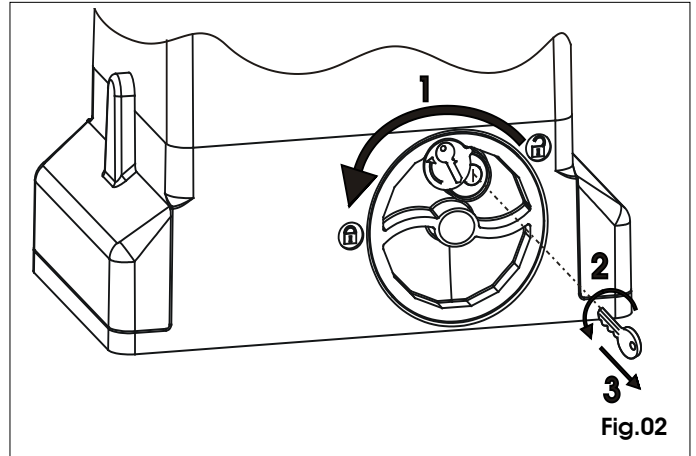

Fig.02
- 1) Turn the release system anti-clockwise, until its stop is reached, Fig. 02 ref. 1.
- 2) Turn the key anti-clockwise and remove it from the lock, Fig. 02 ref. 2 and 3.